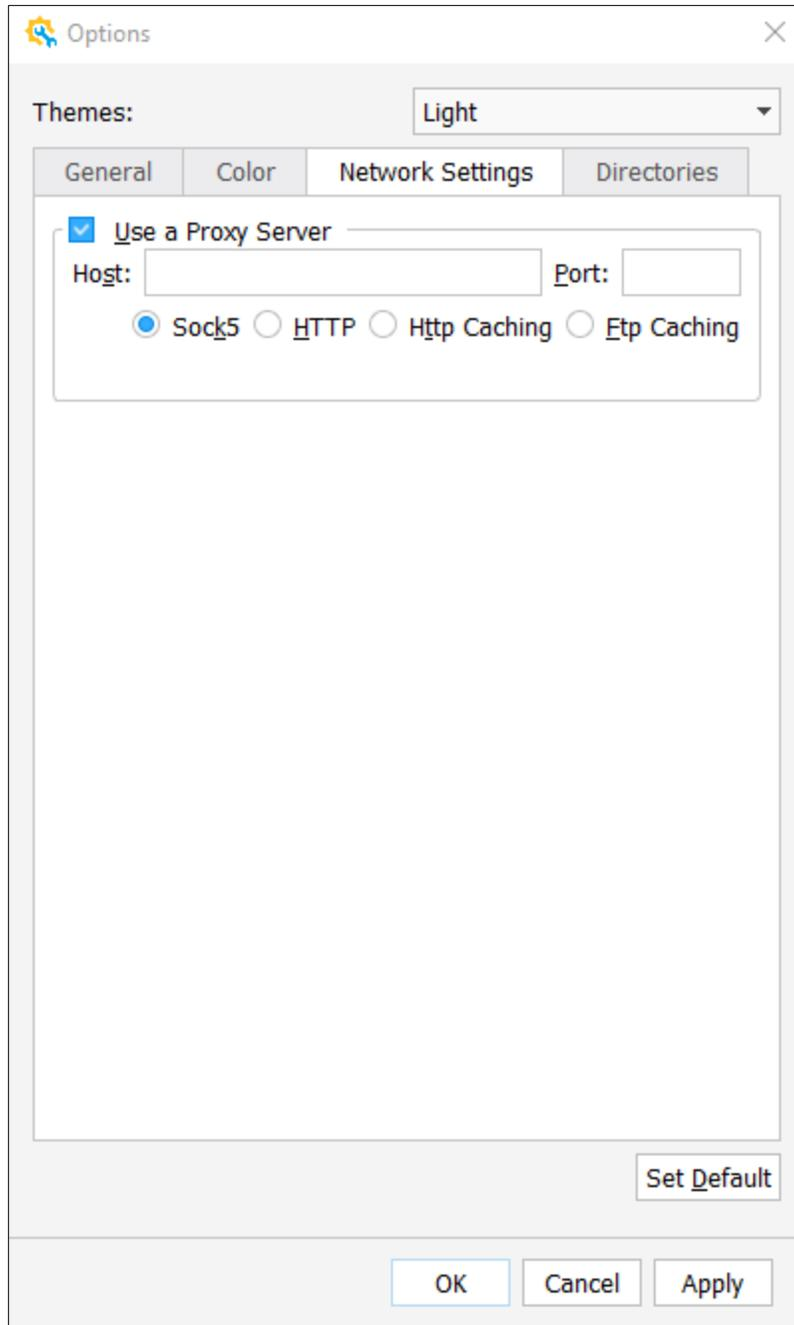

Figure 2.95. Network Settings
- Network Settings (Figure 2.95)